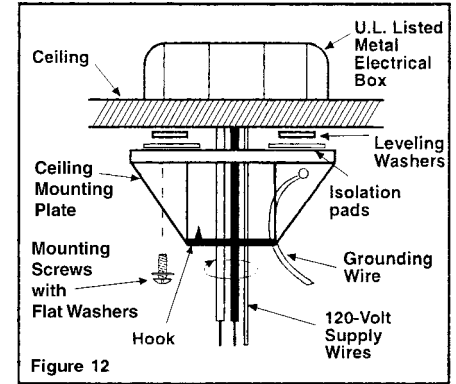

Figure 12
1. Pass the 120 Volt supply wires through the center hole in the ceiling mounting plates shown in Figure 12.